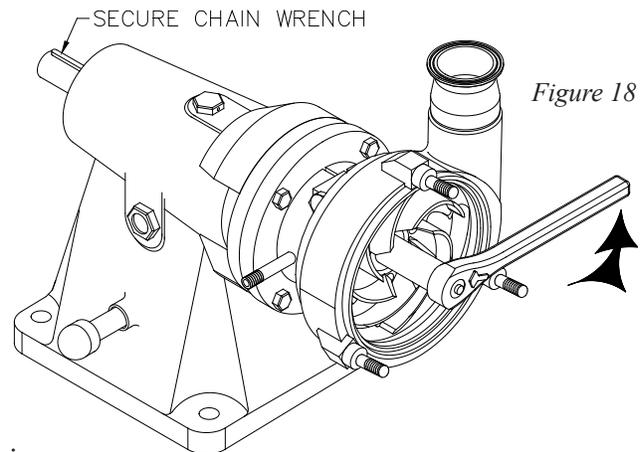

Figure 18
- a) Loosen the cover nuts (47). with the soft-faced hammer and remove.
- b) Remove the pump cover (46) and the cover gasket (45).
- c) Remove the seal water pipes (48) (on double mechanical seal pumps only) by turning them counter-clockwise with the pliers.
- d) Remove the coupling guards by loosening and removing the guard nuts (25). Secure the pump shaft (17) from rotating with the chain wrench while loosening the impeller nut (44). with the 15/16" wrench (**Figure 18**). Remove the impeller nut and impeller nut gasket (43).